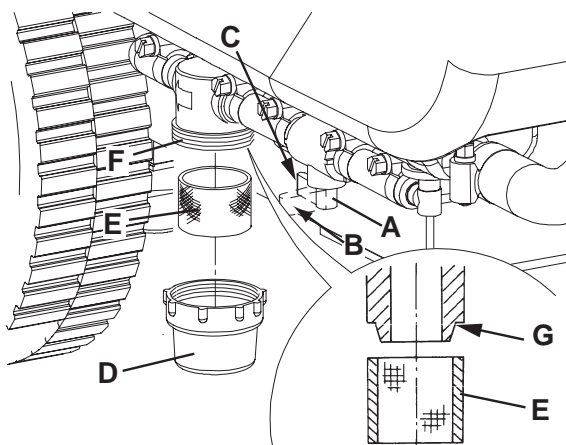

Figure 8
3. Close the solution tap (A, Fig. 8) under the machine, behind the right rear wheel. The tap (A) is closed when it is on the position (B) and it is open when it is on the position (C).
4. Remove the transparent cover (D), then remove the filter strainer (E). Clean and install them on the support (F).